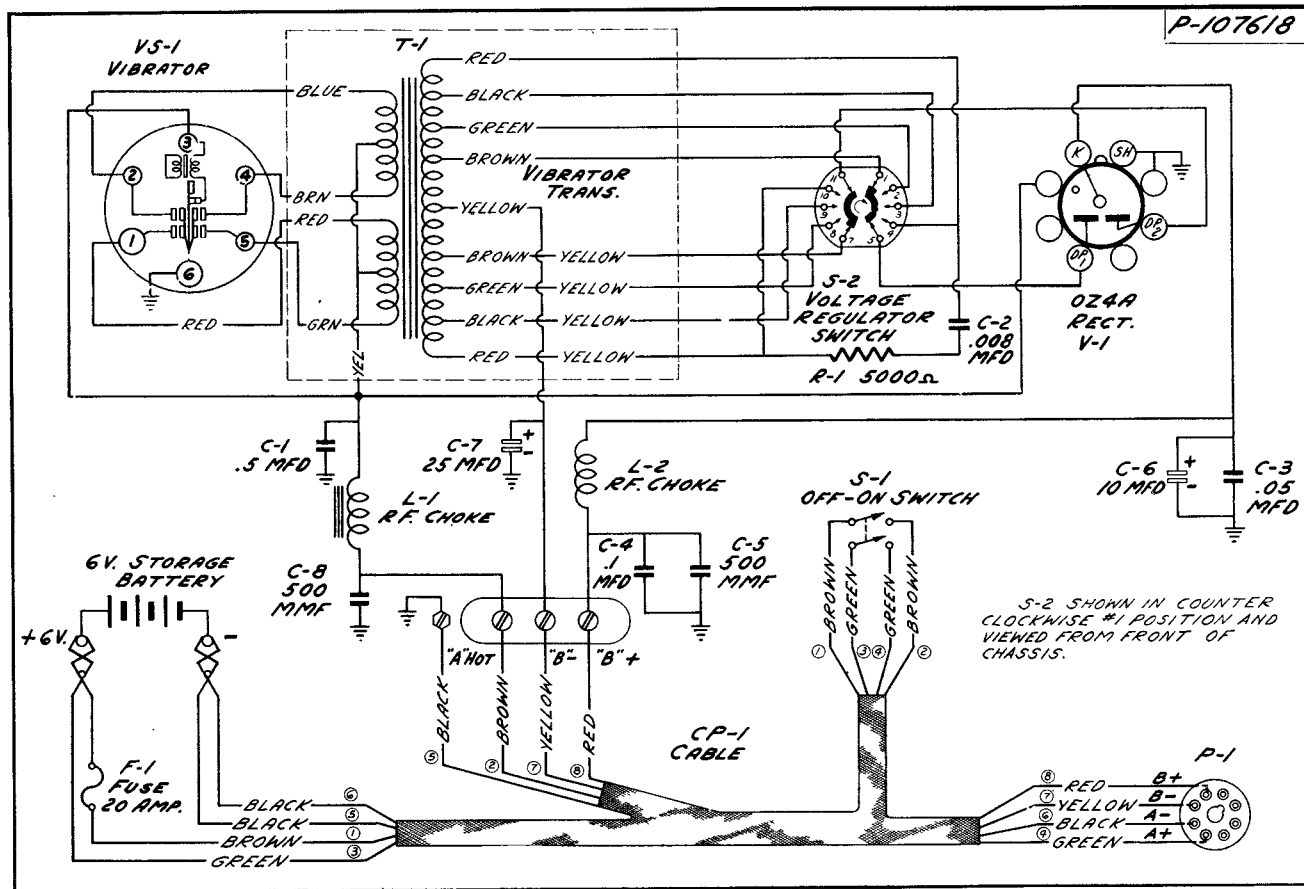

Figure 5.—Vibrator Power Supply — MI-22215 — Schematic Diagram.
7.5 Maintenance:—A schematic diagram of the vibrator power supply unit is shown in Figure 5. The diagram symbol of each part is repeated in the parts list to facilitate identification by means of cross reference. Service generally consists of replacing the vibrator which may have deteriorated through prolonged usage. If excessive output hum should occur during operation, the cause may be a filter-circuit breakdown, such as leaky or short-circuit filter capacitors. When servicing the power supply unit, disconnect it from its source of voltage supply and, using an ohmmeter, check through for continuity.